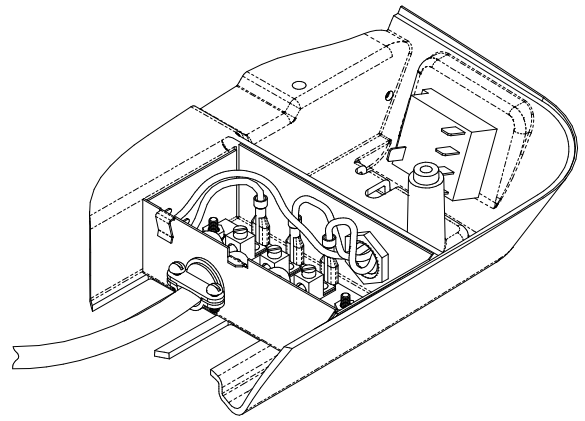

FIGURE 8
- F. Insert the supply wiring through the cable clamp and into the field wiring box so that 4 – 6” of supply conductor is inside the box. Secure the cable clamp over the supply wire sheath so that no movement is possible (See Figure 8).
- G. Connect the supply power conductors to the “A” and “N” lugs on the terminal board. **IMPORTANT** – If power is from one “Hot” and one “Neutral” conductor, connect the neutral to “N”. Connect the ground wire to the “E” lug on the terminal board (See Figure 8).